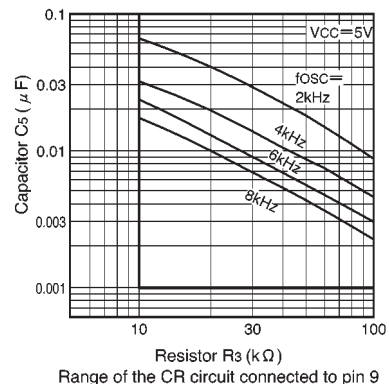

Fig. 9
- (1) Use the potentiometers VR1 and VR2 connected to pins 1 and 3 to set the 0dB levels and adjust the channel 1 and channel 2 balance.
- (2) The recommended oscillator frequency is 4kHz (pin 9). The external component values for C_s and R_3 are $0.01\mu\text{F}$ and $41\text{k}\Omega$ (or $39\text{k}\Omega$). If you wish to use other values, they should be in the ranges $0.001\mu\text{F}$ to $0.1\mu\text{F}$ and $10\text{k}\Omega$ to $100\text{k}\Omega$. (see Fig. 9).
- (3) The dynamic ranges for the BA6820F and BA6822S/F comparators are large, and the comparators will operate even with low-level signals. For this reason, noise may cause the LEDs to light when they should not, and to prevent this, GND line noise should be kept sufficiently low.
- (4) Take care to ensure the none of the pins have a voltage applied to them that is higher than V_{CC} or lower than GND (e.g. supply the LED current from a source other than V_{CC}).
- (5) In general, the level meter output block is switched on and off in the range GND to V_{CC} , and a large voltage with a large high-frequency component is generated. Therefore, if the input and output lines are close, the out-